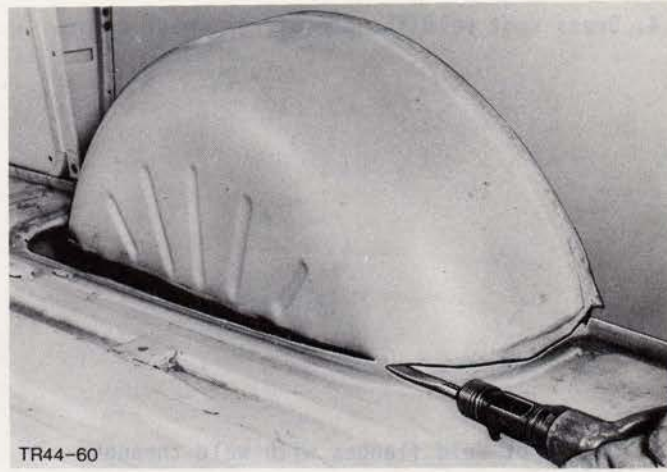

Fig.177. Cut out wheel house.
1. Cut out wheel house along cut line, Fig.177.